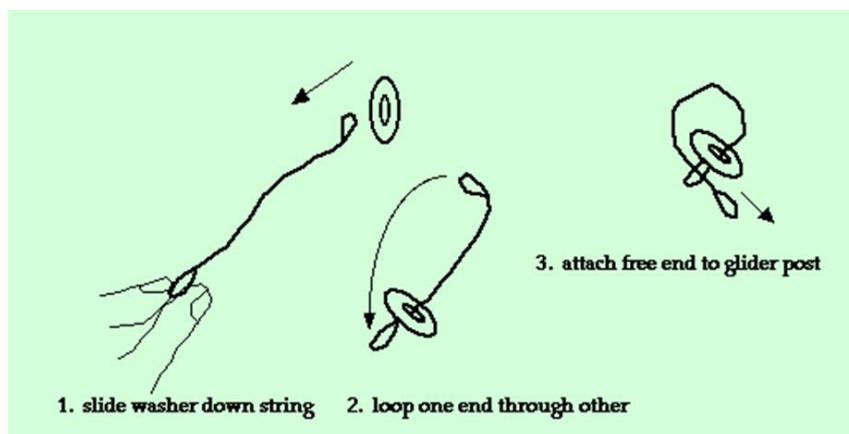

Figure 7.3
7) Use the procedure in the Figure 7.3 to attach 1 washer to the end of the string hanging over the pulley. Put the other 6 washers on the glider by placing them over one of its posts. Be sure to balance out the washers on either side of the glider as much as possible, as you add more during the experiments. **Record** the number of the washers on the free end and on the glider and label them as n_{w1} and n_{g1} .